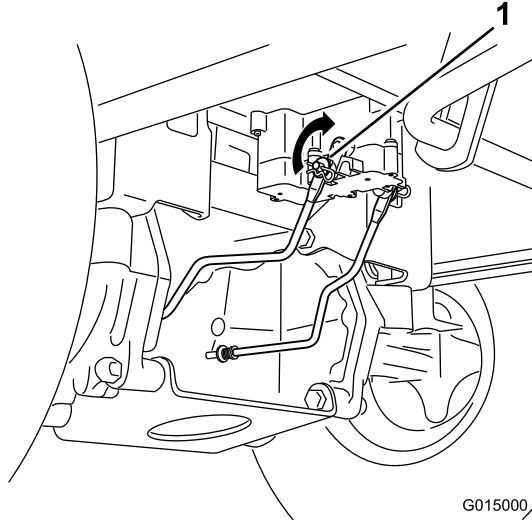

Figure 39
1. Locate the shaft on the electric brake where the brake-link arms are connected (Figure 39).